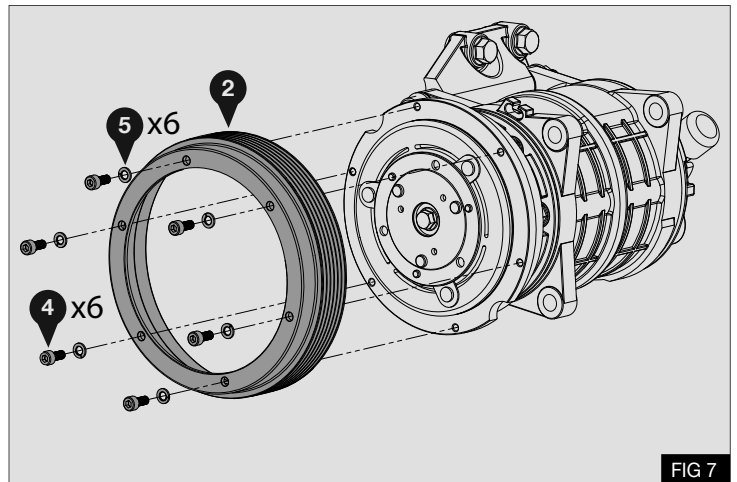

FIG 7
3. Install the clutch rotor (2) to the compressor clutch (3) using 6x M5 cap head screws (4) with washers (5) - Fig 7